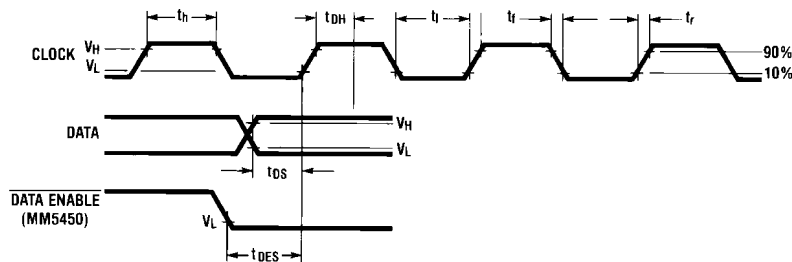

FIGURE 3
*Figure 3* shows the timing relationships between data, clock and **DATA ENABLE**. A max clock frequency of 0.5 MHz is assumed.